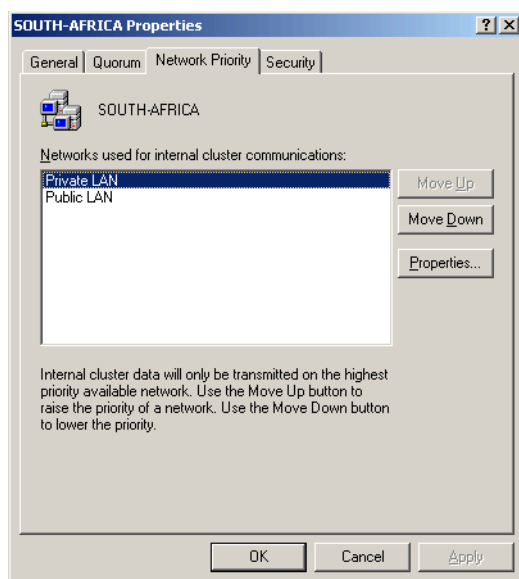

Figure 23-67 Cluster network priority
8. In the Properties dialog, select the **Network Priority** tab, as shown in Figure 23-67. Verify that the network that is used for internal communication only is the first network in the list. Use the **Move up** or **Move down** buttons to change this if required. Click **OK**.
9. The network usage configuration should now look as shown in Figure 23-67.